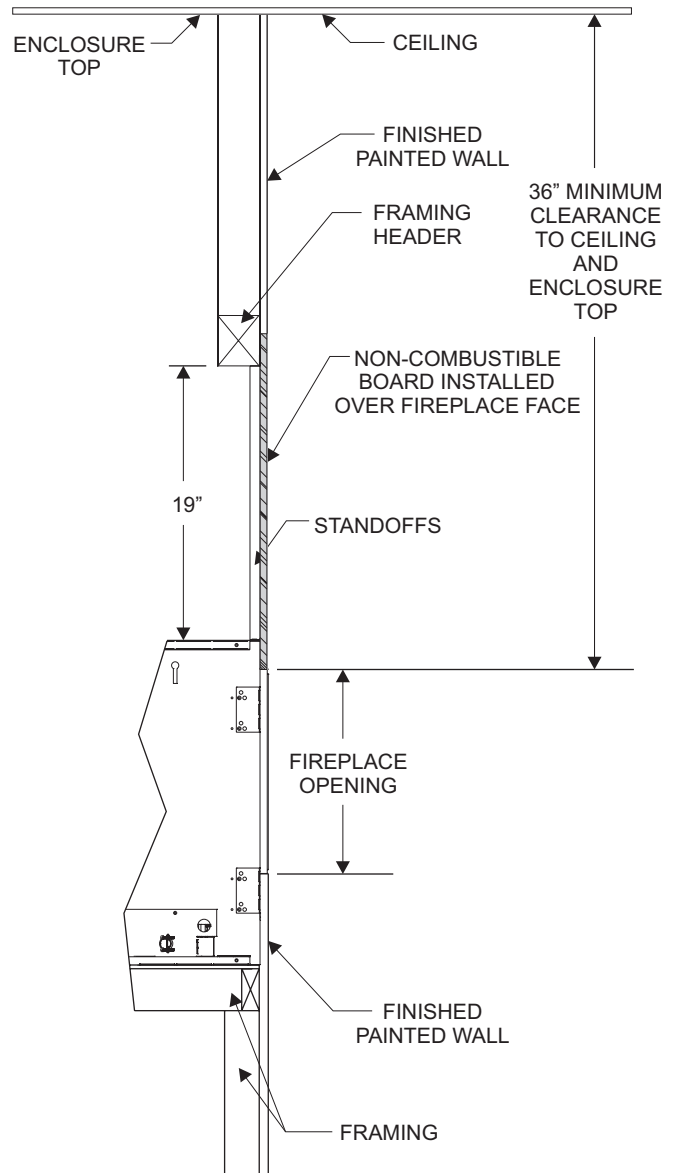

**Figure 51**
- Screws are allowed in framing and top mounting brackets. No screws are allowed into the fireplace. **See Figure 51.**